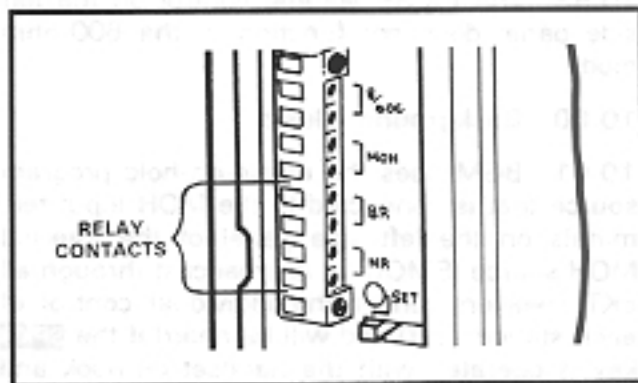

FIGURE 51—RELAY CONTACTS
10.82 To provide this service, connect the external device to the **NR** contacts on the left side panel (see Figure 51).